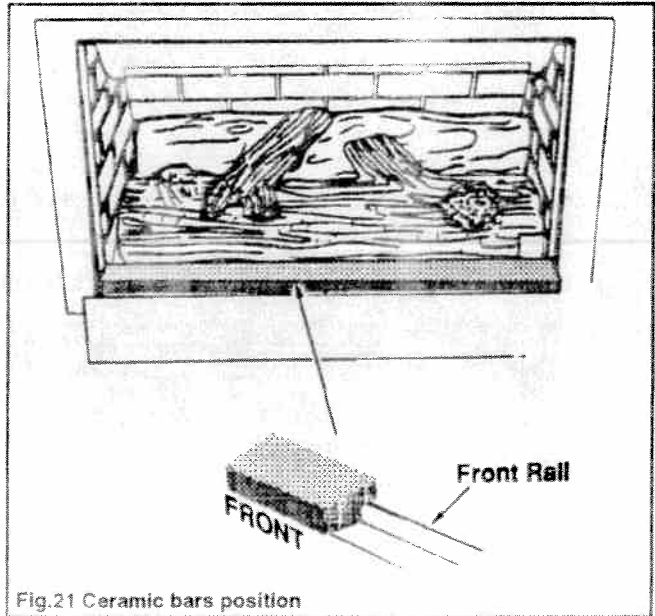

Fig.21 Ceramic bars position
- 15.6 Place the two ceramic bars over the front rail of the firebox (see figure 21).